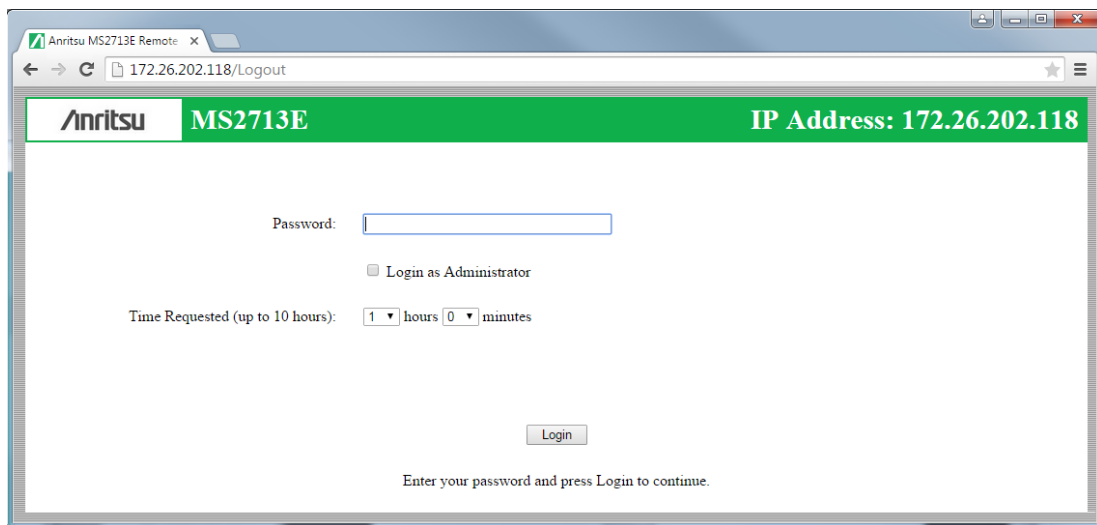

Figure 9-1. Login Page
7. Enter the instrument IP address in the browser address bar to open the Web Remote Control Login page illustrated in Figure 9-1 on page 9-3.
9. Enter the instrument IP address in the browser address bar to open the Web Remote Control Login page illustrated in Figure 9-1 on page 9-3.
The Web Remote Control Login page opens following browser connection to the instrument. See Figure 9-1. The page may show or hide certain elements depending on device management options set by the Administrator, as described in “Device Options” on page 9-11.